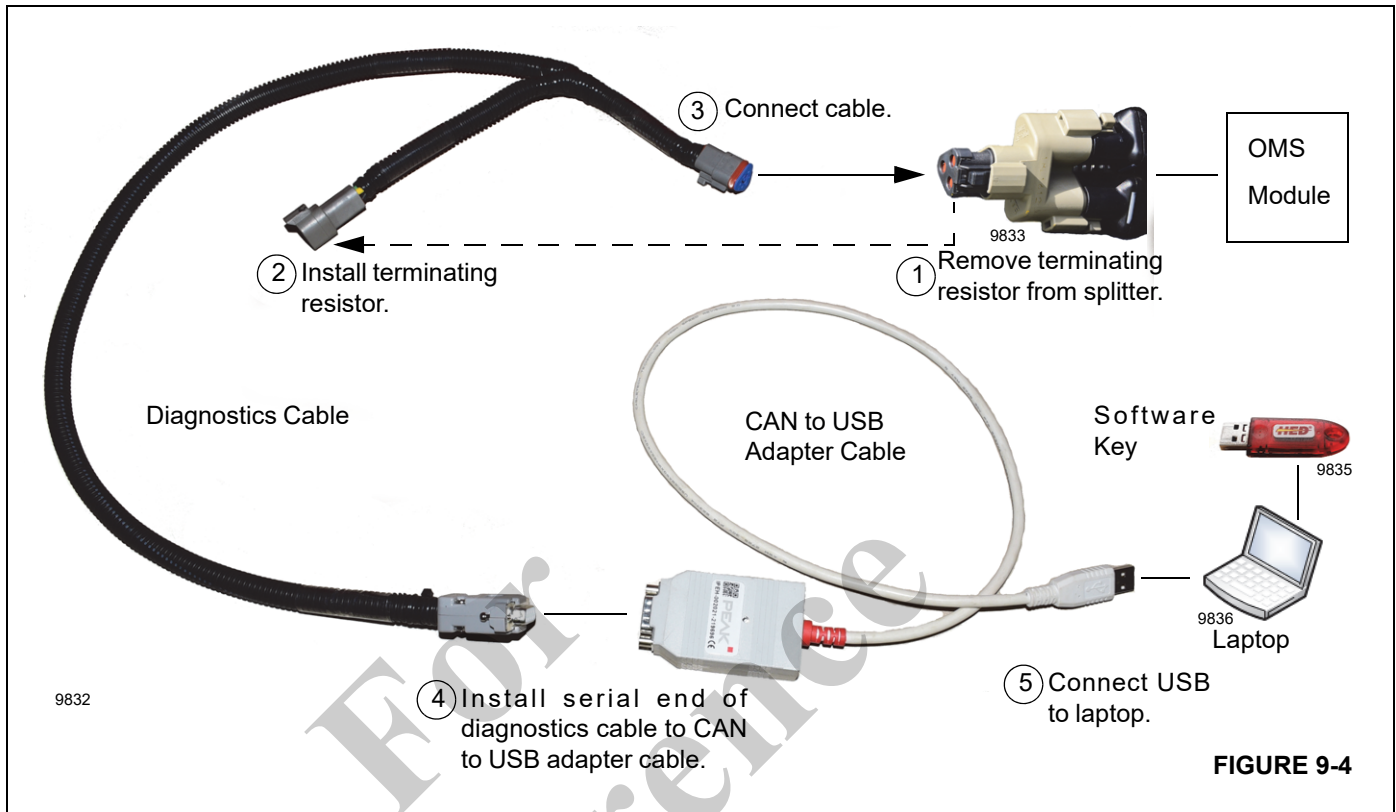

FIGURE 9-4
2. Remove the terminating resistor from the Deutsch splitter (Figure 9-4).